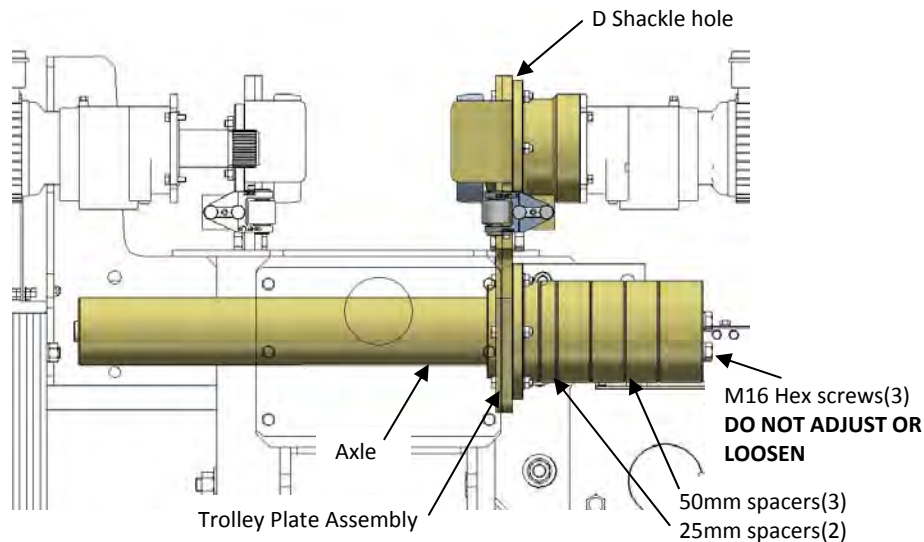

Figure 21 –CT Trolley Plate Assembly- Hoist Panel side
- Remove/slide the complete Trolley Plate Assembly 'Hoist Side', See Figure 21, including the axle and spacers from the hoist. Place aside onto a suitable surface. Use the D shackle holes for suitable lifting equipment (150 kg), place aside.
It is important that the 'Hoist Side' M16 Hex screws(3) are NOT adjusted or loosened, See Figure 21, this ensures correct assembly when the Trolley Plate Assemblies are re-assembled.
- Holding the Trolley Plate Assembly 'Hoist side', push the axle through and remove the 50mm(3) and 25mm(2) spacers, see Figure 21.